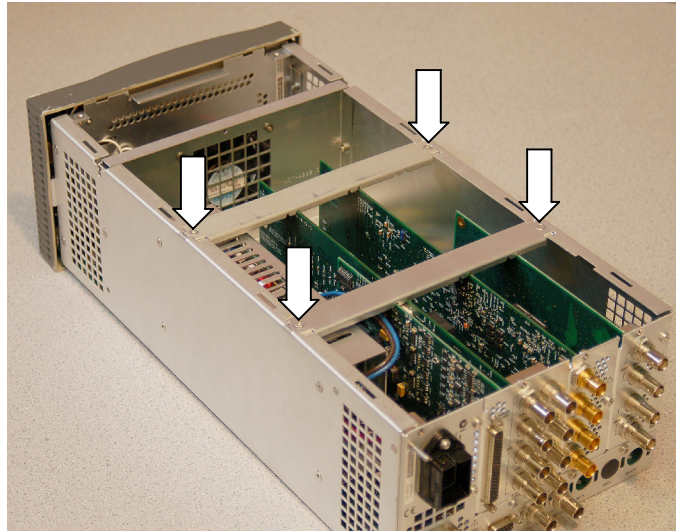

Figure 4: Removing the module guide brackets
5. Remove the four screws from the module guide brackets as shown in Figure 4. Remove the brackets and save the screws for reinstallation. Note that the brackets are keyed to the fit on the chassis in only one direction.